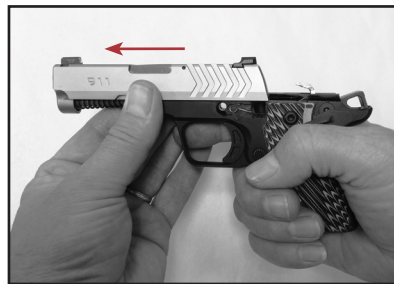

Figure 24-2
7. Move the complete slide assembly forward and off the frame (See Figure 24-2).